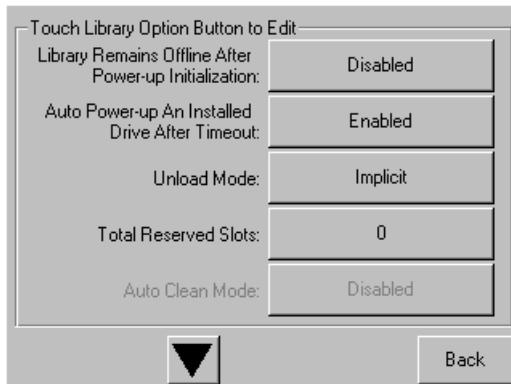

Figure 28 Total reserved slots screen
2. On the **Library** options screen, press the **▼** to scroll to the screen that contains the **Total Reserved Slots** option (see Figure 28).